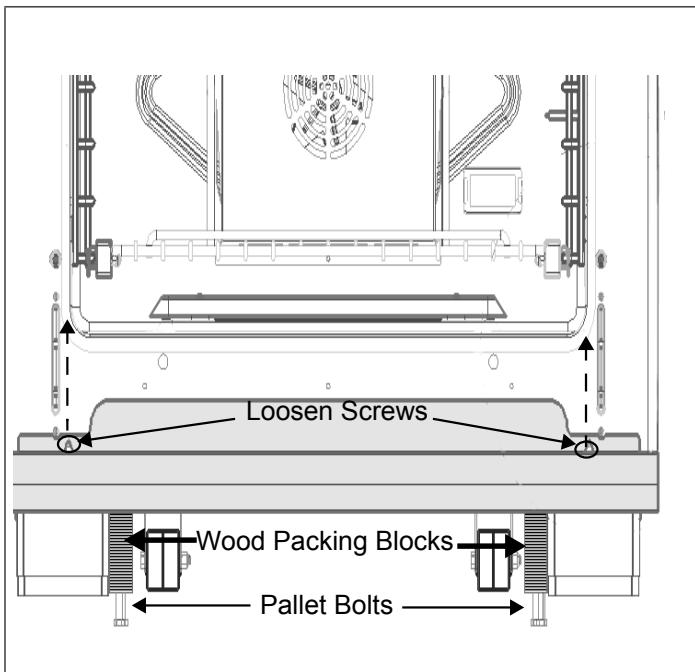

Figure 5: Door Trim, Packing Blocks, & Pallet Bolts
3. All ranges are held to the pallet by (4) bolts through a wood block center (see Figure 5). The two front pallet bolts are accessible only after removing the Door Trim located beneath the doors.